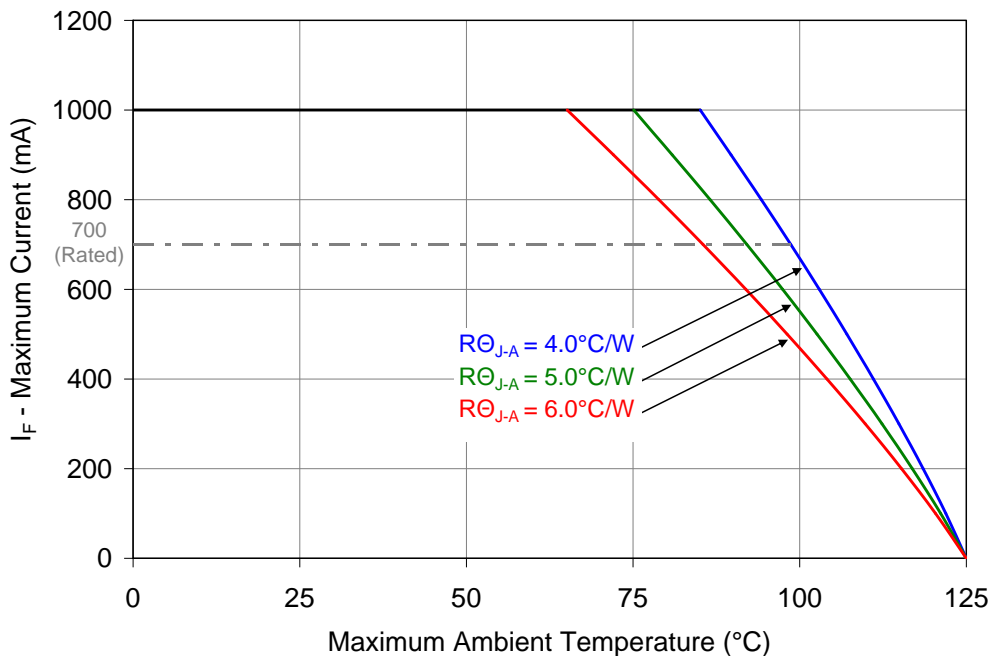

Figure 10: Maximum forward current vs. ambient temperature based on  $T_{J(\text{MAX})} = 125^\circ\text{C}$ .
- Maximum DC forward current (per die) is determined by the overall thermal resistance and ambient temperature. Follow the curves in Figure 10 for current derating.
Notes for Figure 10: